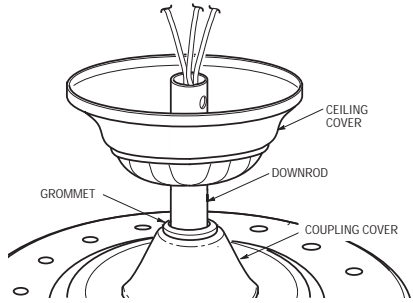

Figure 3
- 5. Make sure the grommet is properly installed in the coupling cover, then slide the coupling cover on the downrod until it rests on the motor housing. Place the ceiling cover over the downrod. Be sure that the ceiling cover and the coupling cover are both oriented correctly (Figure 3).